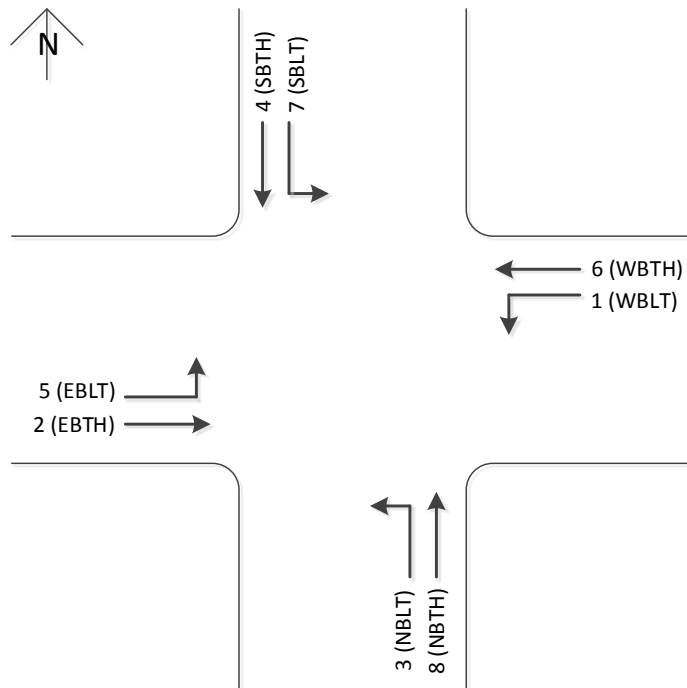

Figure 1. Numbering and notation of movements at a signalized intersection
**Step 1: Compute the flow ratio  $Y_i$  for each movement  $i$  present at the intersection.** The standard movement numbers and notations are shown in Figure 1. Right turn volumes are combined with the through movement volumes.